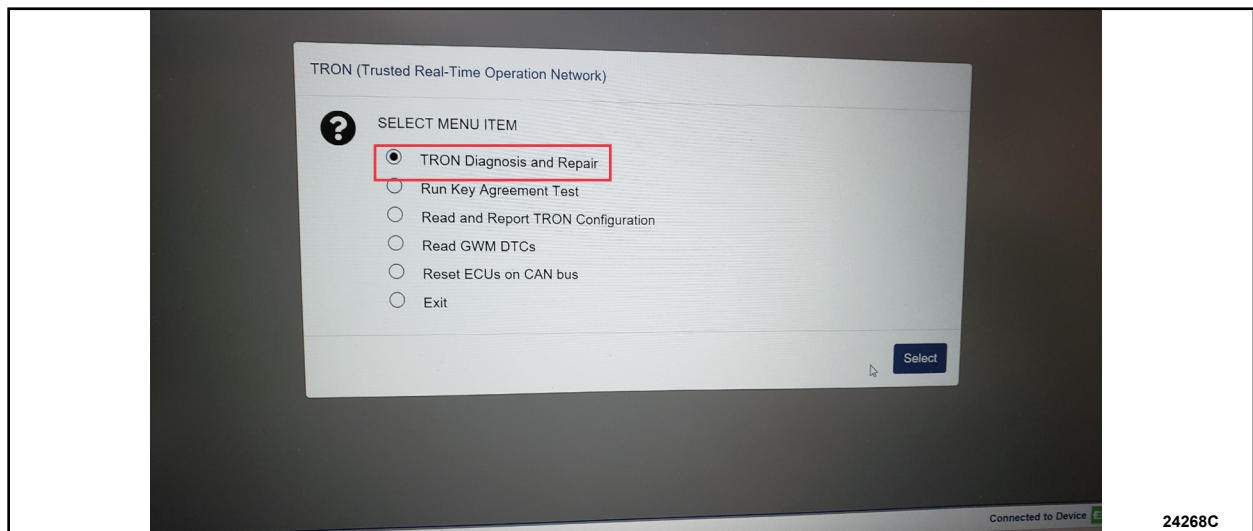

FIGURE 2
25. Select TRON Diagnosis and Repair from the menu items and then click **Select**. See Figure 2.